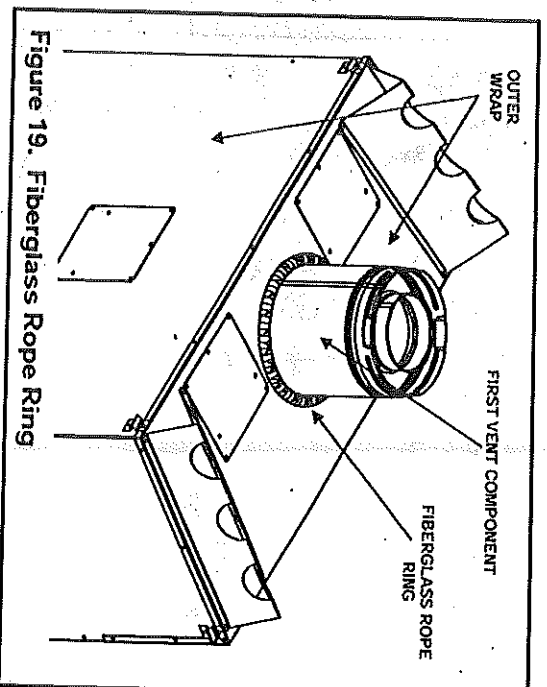

Figure 19. Fiberglass Rope Ring
- Make sure that the fiberglass rope ring supplied in the manual bag seals between the first 8-5/8 inch (219mm) vent component and the outer fireplace wrap (see Figure 19).